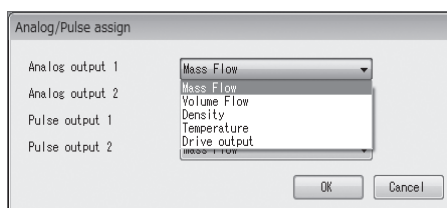
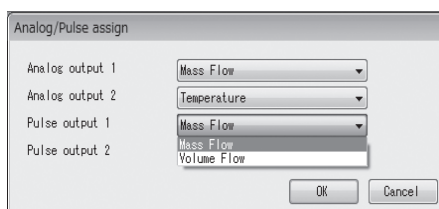

Fig.35
Fig.36
- ③ Set each item assignment. Make your selections from the drop-down lists by clicking the triangles on the right side of each item, as shown in Fig. 35 and Fig. 36.